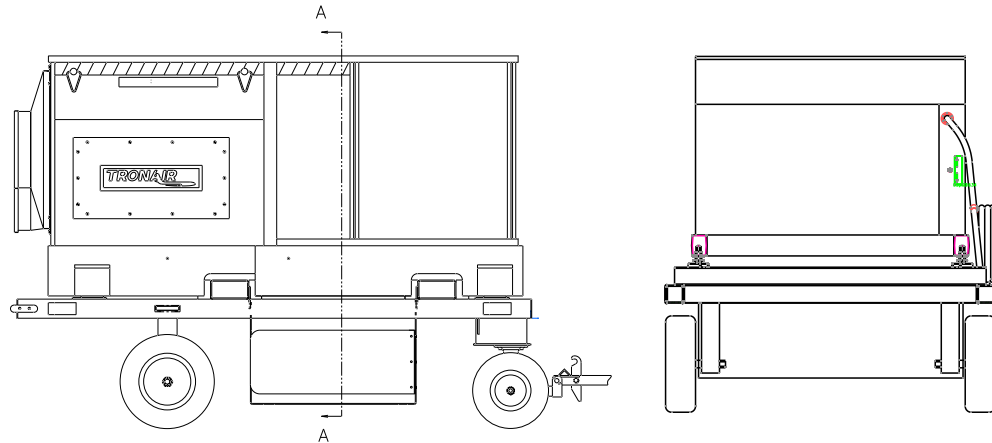

FIGURE 6
6. Locate the Heat/Cool switch in front of the air conditioner unit near the power cord. See **Figure 6**. Move switch up or down to the desired function of either heating or cooling.